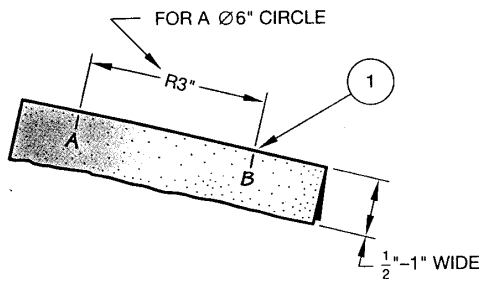

FIGURE 2.20 ■ Step 1, make a trammel.
- Step 1. Make a trammel to sketch a 6-in. diameter circle. Cut or tear a strip of paper approximately 1 in. wide and longer than the radius, 3 in. On the strip of paper, mark an approximate 3-in. radius with tick marks such as A and B in Figure 2.20.